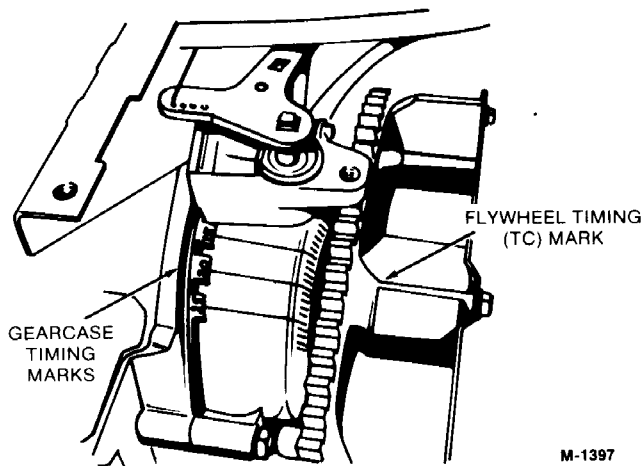

FIGURE 15. TIMING MARKS
2. Remove blower housing to expose timing marks on top of gearcase cover and flywheel (Figure 15).
3. Rotate flywheel clockwise until timing mark is aligned with the proper number of timing degrees (Figure 15) stamped on the top of gearcase cover. Refer to *SPECIFICATIONS* for proper number of timing degrees.